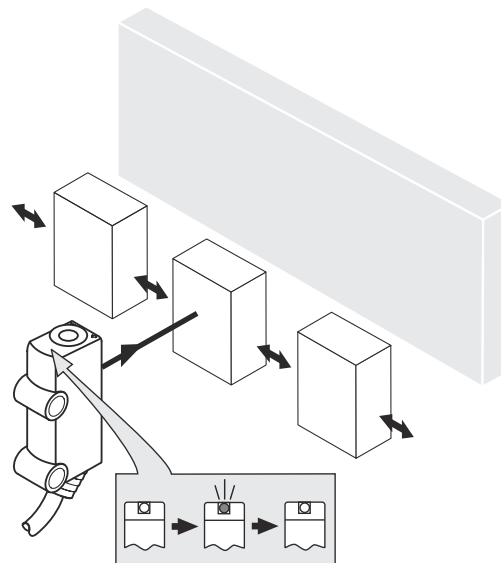

Figure 4: Standard direction
4. Note the preferred direction of the object relative to the sensor. see figure 4, page 27